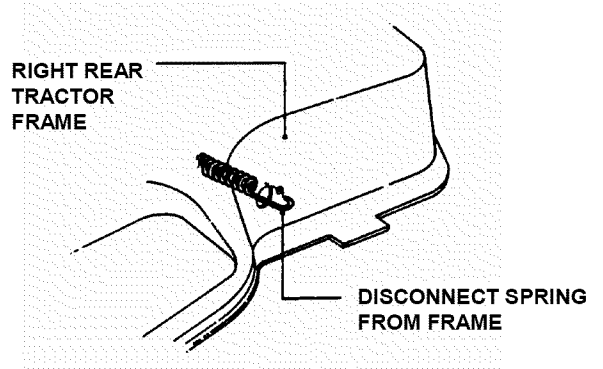

**FIGURE 4.29**
11. Slide sector plates off of rear deck hanger brackets. See Figure 4.29.